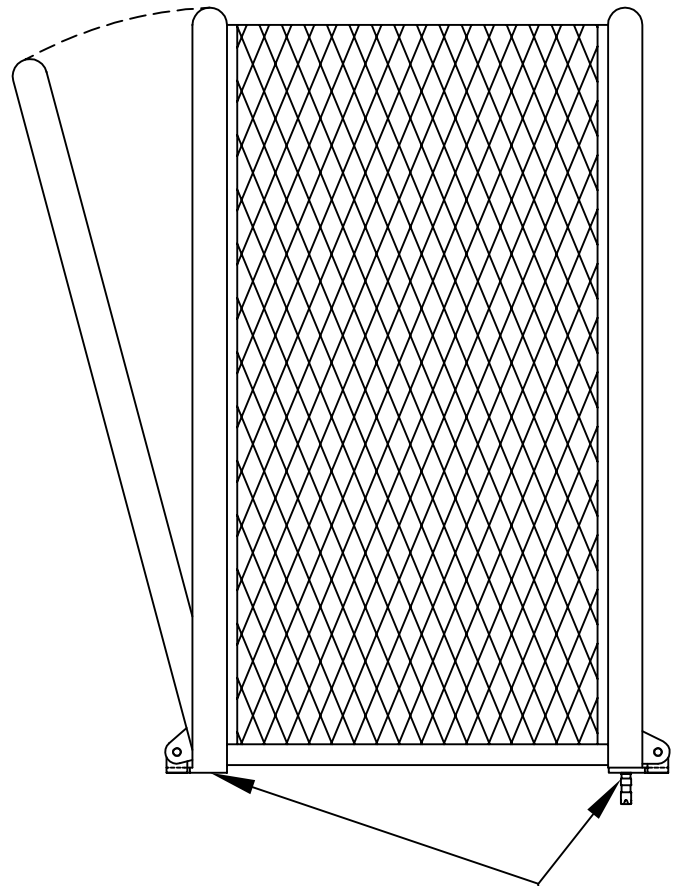

FIG. 1
1) Place both sections of the enclosure body (or one section and gate) on pad, making sure each piece will function. Mark location of hinges. FIG. 1
2) Mark locations to be drilled for anchors, making sure to align hinges with existing marks; 4 per enclosure. FIG. 1